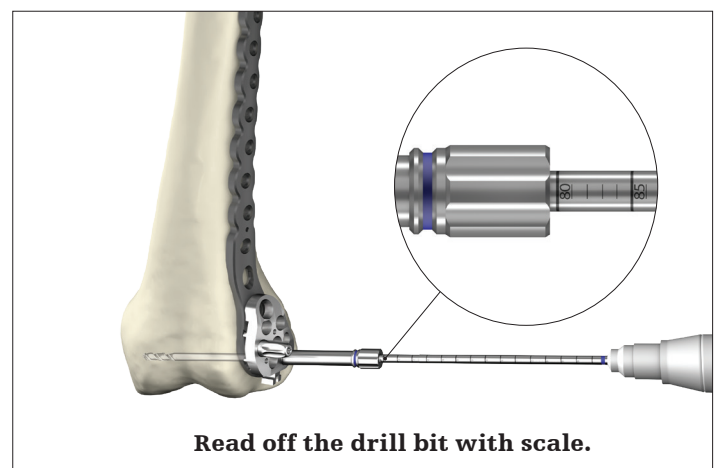

Fig. 18
**When using the "read off drill bit calibration" measurement option, always make sure to use the drill and sleeve with the corresponding number of color rings (fig. 18).**